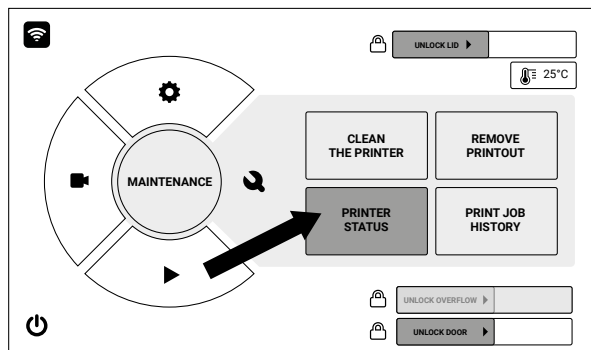

Fig. 13.1 The **MAINTENANCE** and **PRINTER STATUS** screen, which contains all the basic printer maintenance tasks.
- To determine if it is time to service the printer components, from the Main Menu, select **MAINTENANCE** and then select **PRINTER STATUS** (fig. 13.1).